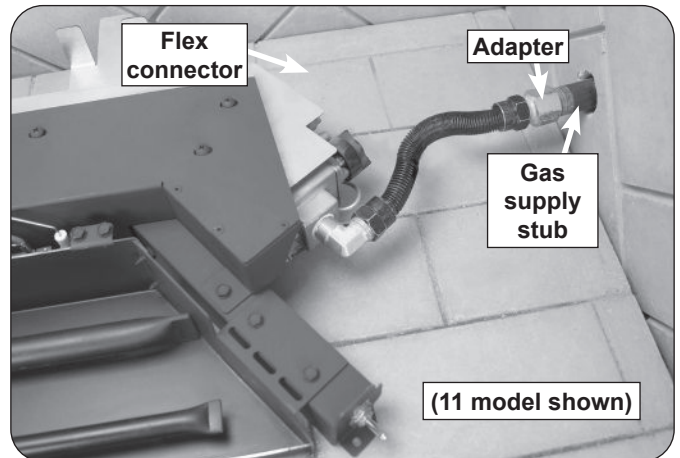

Fig. 9-1 Connect burner to gas supply
2. Locate the gas-supply stub inside the fireplace and remove the cap, if attached (reference Fig. 9-1).
4. **Be sure gas to the fireplace is off.** Remove the adapter connected to the flex connector (pre-installed on the burner system). Attach the adapter to the gas-supply stub using a pipe compound resistant to all gasses. Tighten securely. Then attach the open end of the flex connector to the adapter. Tighten securely. See Fig. 9-1.